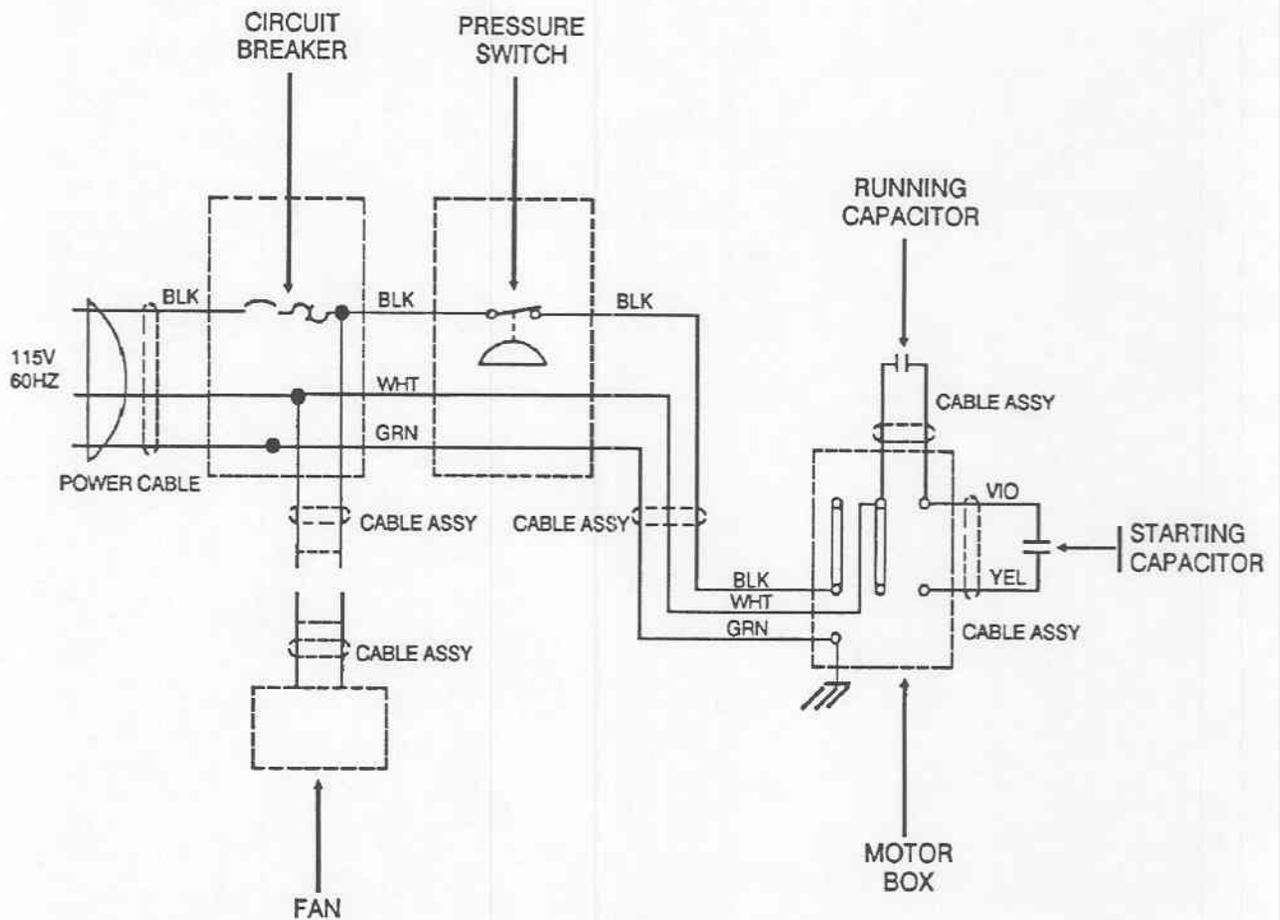

Figure 3-1. Electrical wiring diagram.
c. An electrical wiring diagram is provided (fig 3-1) to assist in the preceding general troubleshooting table. This illustration will also assist with additional detailed electrical and mechanical troubleshooting procedures. The dashed elliptical symbols are used to indicate sheathed electrical wiring and the dashed rectangular symbols are used to depict components or electrical assemblies. This combination of electrical and physical components or assemblies will allow the easy identification of both internal and external electrical connection points and decrease troubleshooting timeframes.
3-16. Pressure switch and bracket assembly (fig 3-1 and fig E-3).